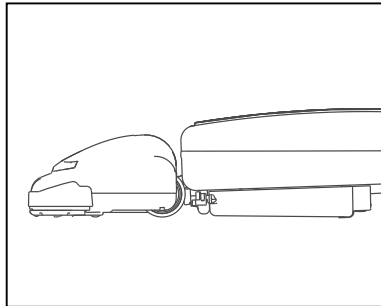

Fig. 3
- Continue to lower the handle to enable the vacuum to lay flat on the floor (Fig. 3).